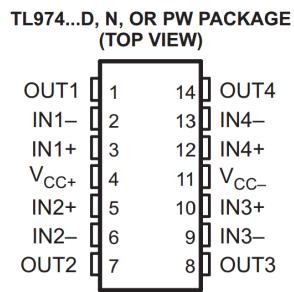

Figure 13: Pinout diagram of the TL974 Op-Amp.
1. Using Fig. 13-a as a reference, connect the Teensy to the MCP4921 DAC. Connect the MCP4921's VDD pin to the output of the LM317 regulator (5 V). Connect the MCP4921's VREF pin to the LT1009 reference's output (2.5 V). Connect both AVSS and LDAC of the MCP4921 to ground. A 0.1  $\mu$ F and a 1  $\mu$ F capacitor could be used at VREF to minimize noise at the reference. It is very important to keep your circuit (ICs, resistors, capacitors, wires, etc) organized. Use as short of a wire as possible between two connection points. Refer to Fig. 13-b for an example layout.